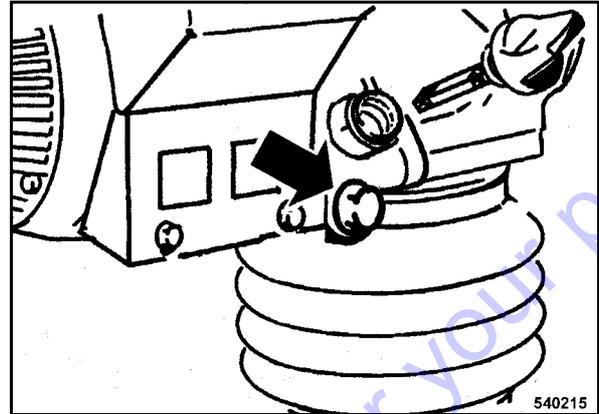

Fig. 37
- Unscrew the drain plug (Fig. 37).